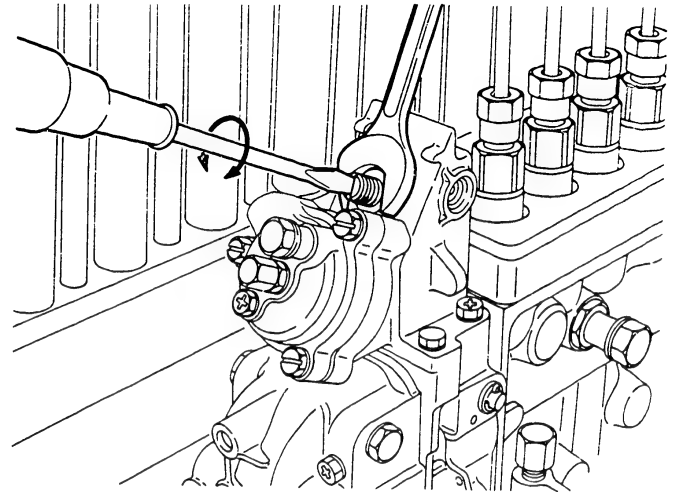

Fig. 191 Adjusting the B.C.S. stroke
5. With no boost pressure applied, adjust the boost compensator stroke to the specified value using the screw (250/91) for rack position adjustment (refer to Fig. 191).